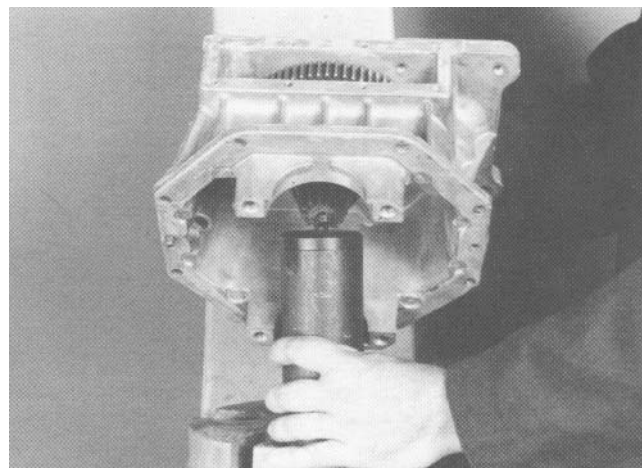

Figure 43
7. Support the drive pinion in a suitable press (Fig. 43).